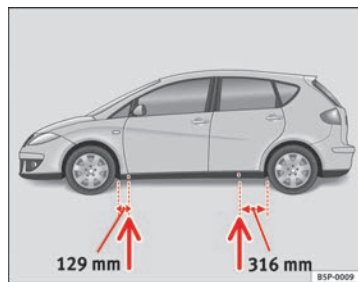

Fig. 178 The jacking points
- Locate the jacking point under the door sill closest to the wheel to be changed ⇒ fig. 178.
Recesses at the front and rear of the door sills mark the jacking points ⇒ fig. 178. There is only one jacking point for each wheel. Do not fit the jack anywhere else.